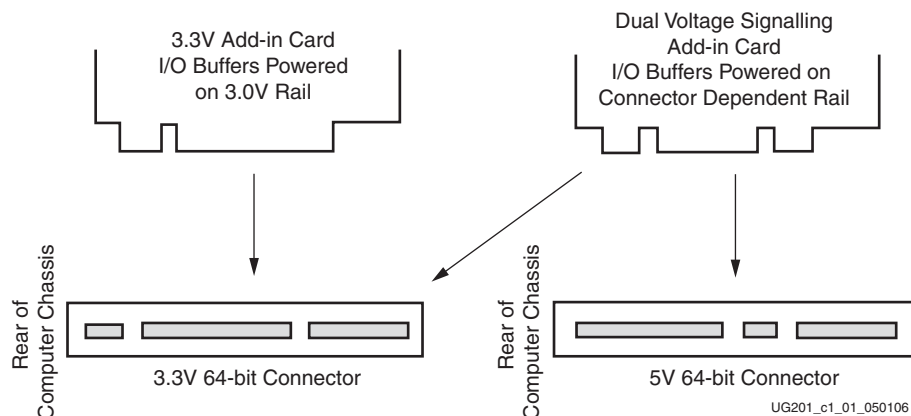

Figure 1-1: Add-in Card Connectors
This Virtex-5 FPGA based kit provides a development platform for designing and verifying PCI and PCI-X™ applications utilizing Xilinx LogiCORE™ intellectual property (IP) cores in a 3.3V signaling environment. The ML555 board is intended to plug-in to a 3.3V keyed system board. The ML555 board is not a Universal add-in card nor is it intended to plug into a 5V keyed system board. Figure 1-1 shows how to identify a 3.3V system board slot (left side) from a non-supported 5V system board slot (right side).